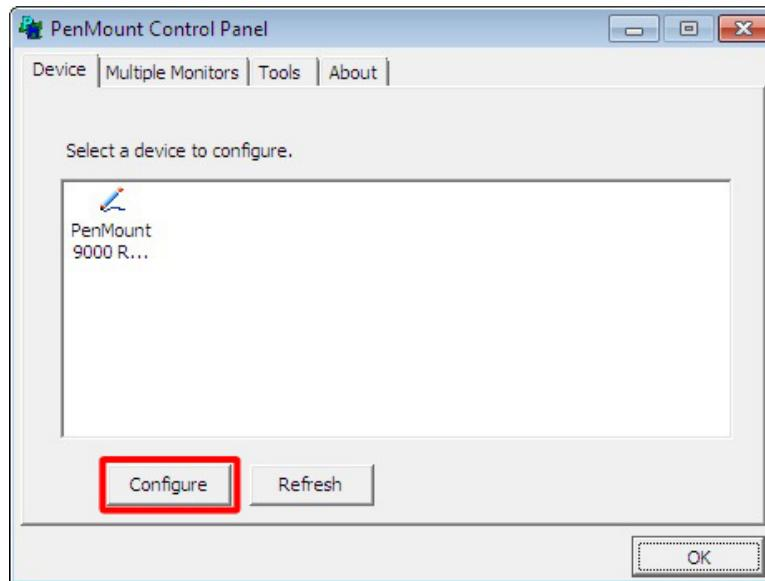

Figure 3-31: Touchscreen Control Panel
Step 3: The touchscreen control panel appears (Figure 3-31). Click **Configure**.